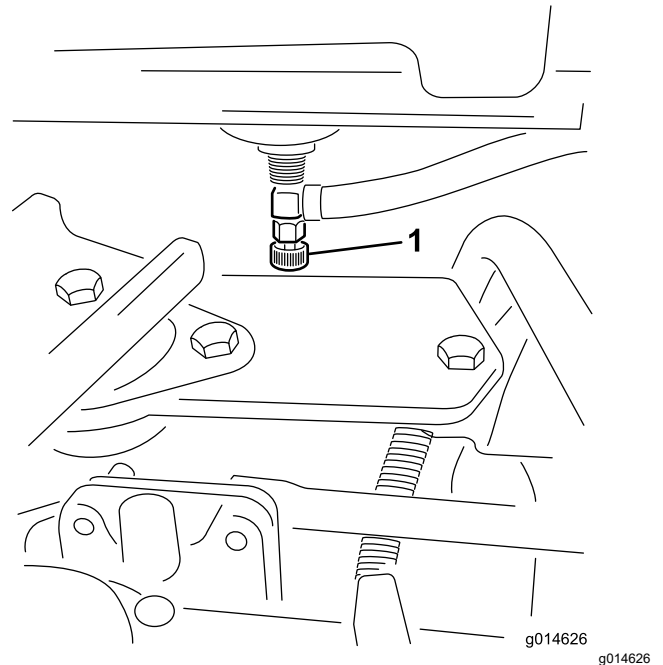

Figure 39
1. Close the fuel-shutoff valve (Figure 39) below the fuel tank.